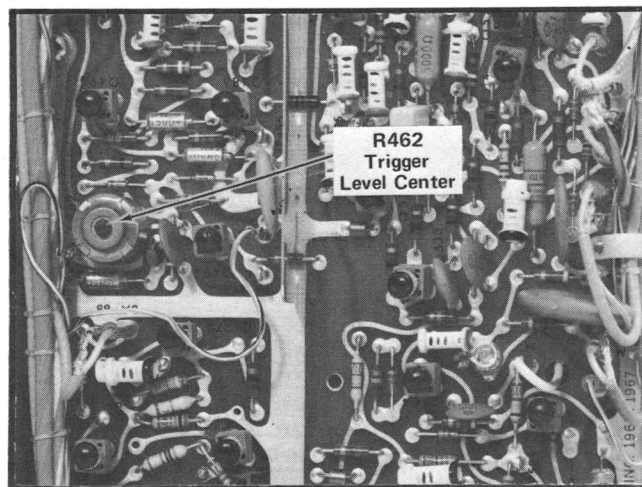

Fig. 5-8. Location of Triggering adjustment (sweep board).
- f. ADJUST—Trigger Level Center adjustment R462 (see Fig. 5-8) for a stable display.